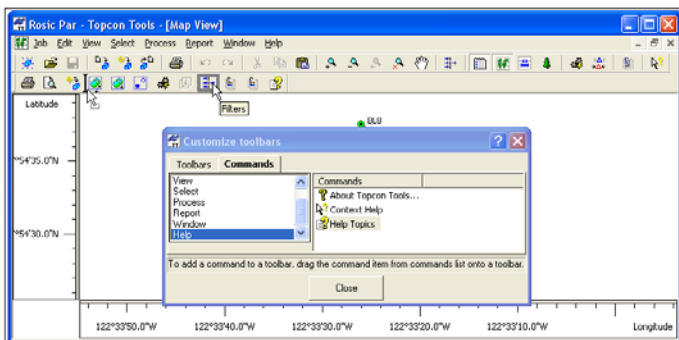

Figure 1-29. Editing Toolbar Button Location
- When all desired commands have been added to the toolbar, rearrange the toolbar buttons as needed: click and drag the button to a location on the toolbar (Figure 1-29). When editing the toolbar, the *Customize toolbars* dialog box must be open.